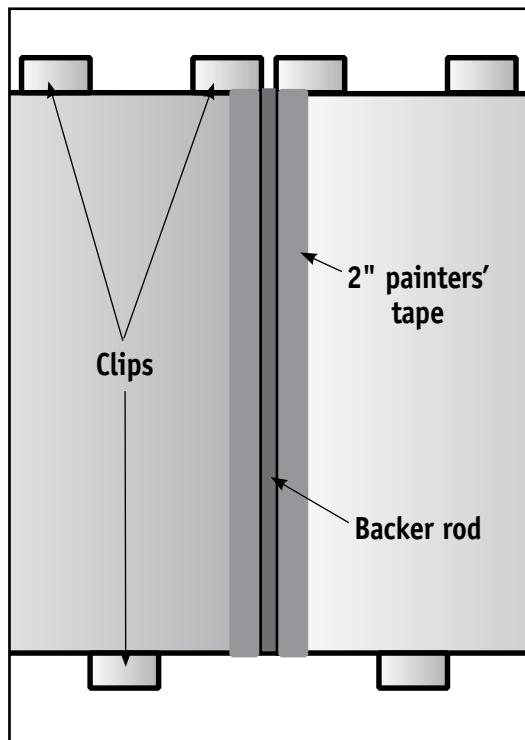

Figure 13
See **Figure 13**.
**Figure 13** is an overhead view of the backer rod inserted into the caulk joint.